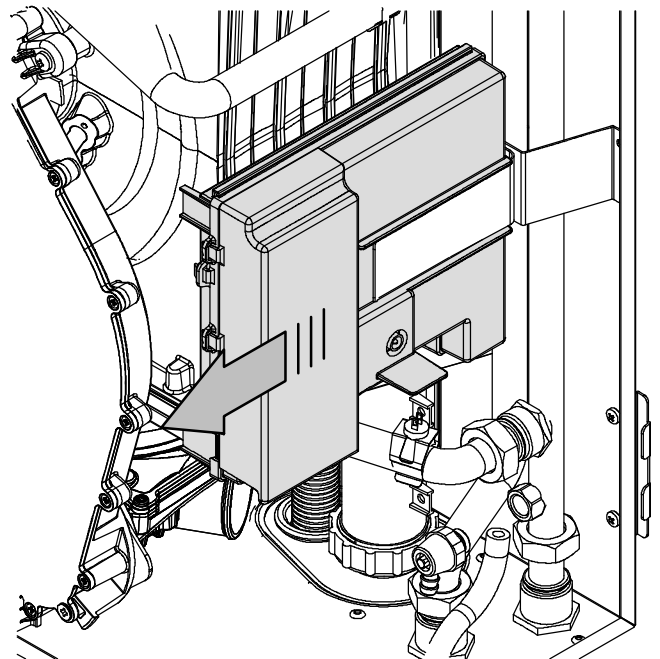

Fig. 2.8
- Pull the box that contains the electronic p.c.b. and rotate it (Fig. 2.8).